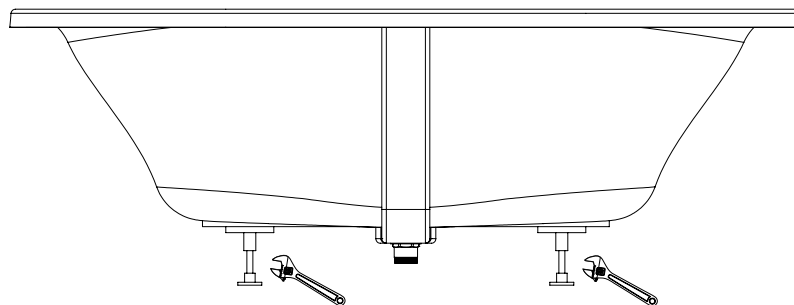

Figure 9
5. Using the adjustable feet on the underside of the tub, ensure the tub is level by using a wrench to adjust the levelling feet to the right height. Tighten the nuts to secure height. (See Figure 9).